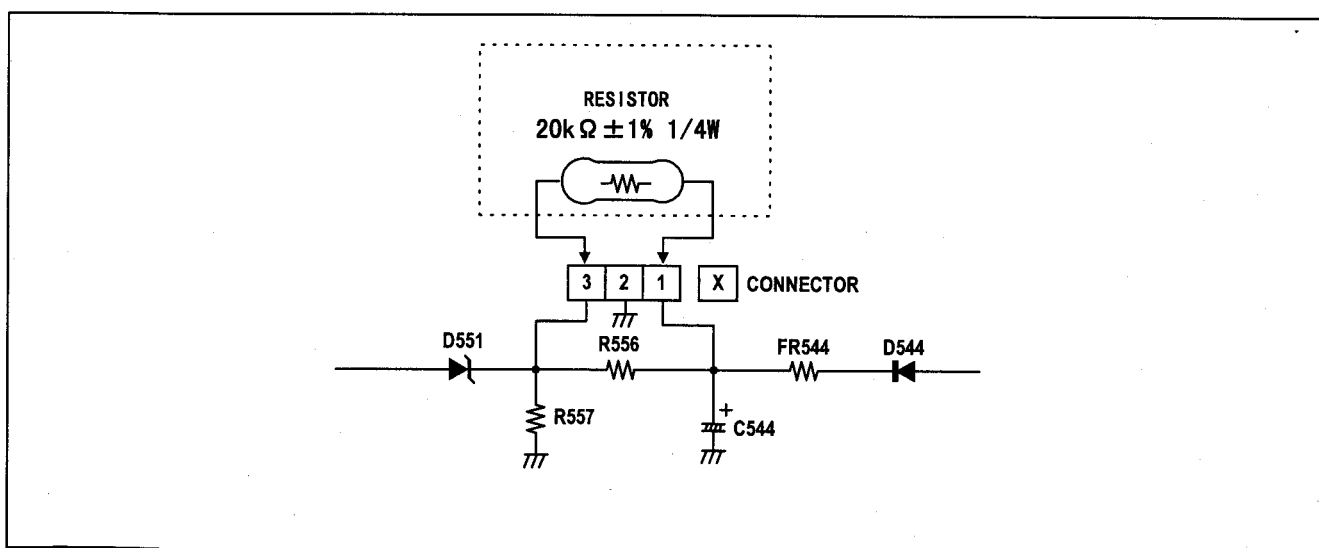

Fig.2
- (1) Turn the POWER SW ON.
- (2) As shown in Fig.2, set the resistor (between **X** connector **1** & **3** ).
- (3) Make sure that the screen picture disappears.
- (4) Temporarily unplug the power plug.
- (5) Remove the resistor (between **X** connector **1** & **3** ).
- (6) Again plug the power plug, make sure that the normal picture is displayed on the screen.